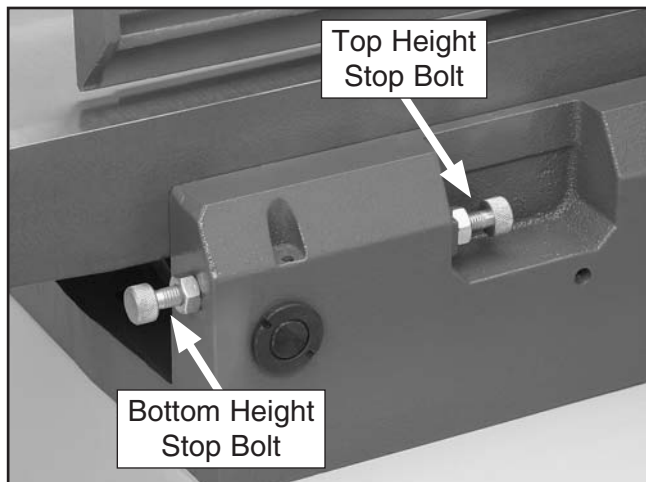
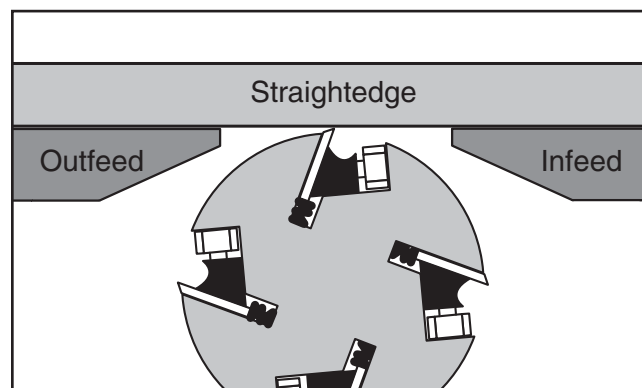

Figure 70. Positive stop bolts for the infeed table.
Figure 71. Infeed table even with outfeed table.
Each positive stop bolt controls the top or bottom range of the table movement (see **Figure 70**). The jam nuts lock the positive stop bolts in position so they will not move during operation.
3. Loosen the infeed table positive stop bolts (see **Figure 70**), then use the straightedge to help adjust the infeed table exactly even with the outfeed table, as shown in **Figure 71**.